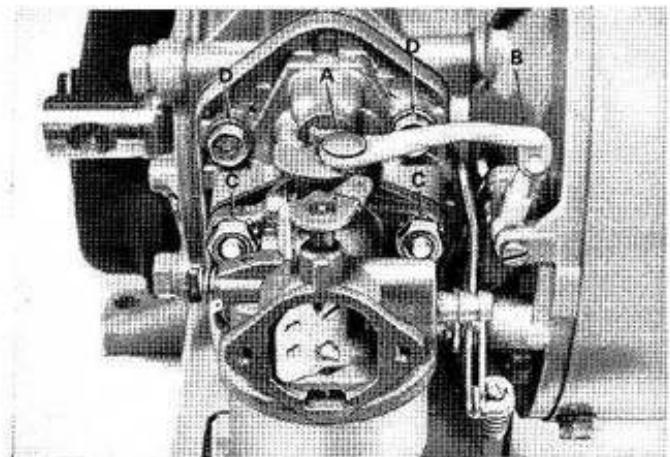

Figure 61. Removal of Governor, Carburetor and Reed Adapter.
a. Disconnect the governor and the throttle linkage. (See Figure 61.)
1. Grasp the brass retaining button (A), pull upward and remove.
2. Lift the notched nylon throttle link to a vertical position and disconnect at (B).